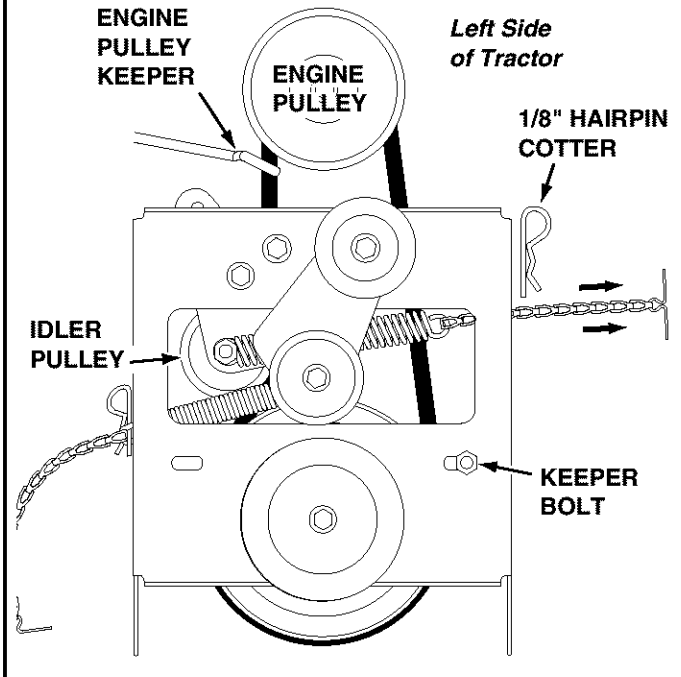

FIGURE 22 VIEWED FROM UNDERNEATH
- Assemble the short "V" belt onto the engine pulley and then onto the large pulley on top of the clutch/idler assembly. The belt must be placed to the inside of the engine pulley keeper, the idler pulley and the keeper bolt located beside the large pulley. See figure 22 on page 13.
- Place tension on the belt by pulling the left side tensioning chain out as far as the 5/64" hairpin cotter will allow. Secure the chain in this position by inserting a 1/8" hairpin cotter through the chain. See figure 22 on page 13.